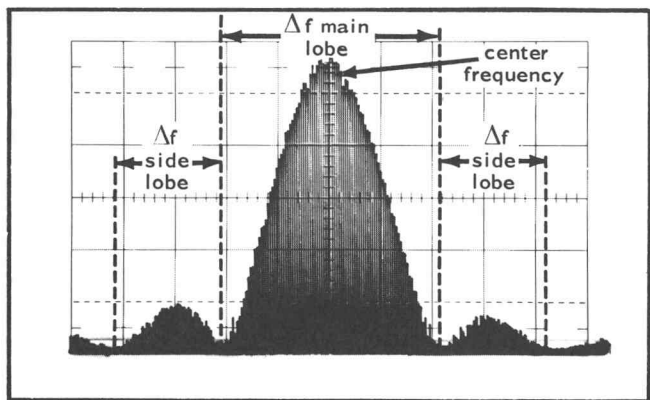
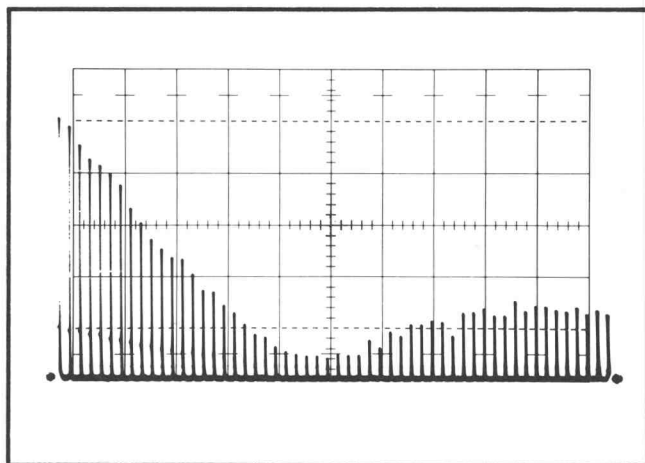

Fig. 2-6. Measuring the frequency spectra of a pulsed CW signal.
Fig. 2-8. ×5 magnification applied to the display shown in Fig. 2-6.
5. The equivalent pulse width of the modulation signal can now be determined by measuring the frequency width (see Fig. 2-6) of either the main lobe (of Δf_{main}) or a side lobe (Δf_{side}) as directed in Frequency Difference Measurements and calculating for pulse width.
The spectrum analyzer can also be used to measure the repetition frequency of the pulsed signal. Note in Fig. 2-6 that the frequency distribution of the pulsed signal is a series of vertical lines. Each line represents one sampling (interception) of a pulse during the sweep interval. Thus, at zero dispersion, the line spacing will correspond directly to the sweep time.
Fig. 2-8 shows an expanded display of the pulsed RF signal that was shown before in Fig. 2-6. The spectrum is being examined in detail in the vicinity of one of the nulls.